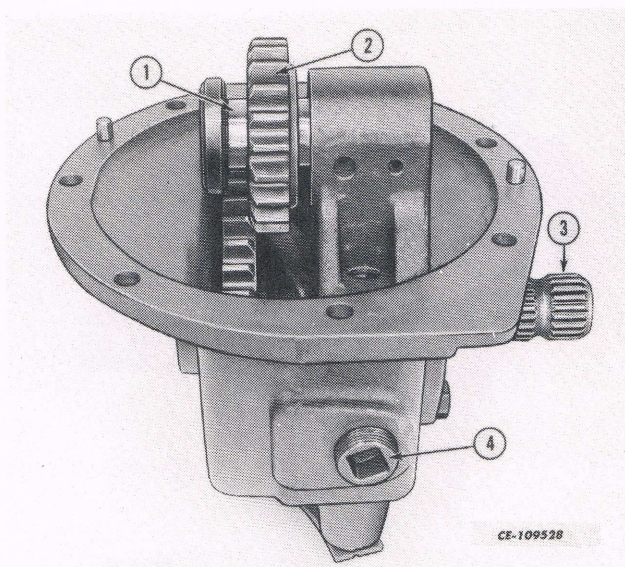

Fig. 28
3. Install the spring and two detent balls in the output shaft. Hold the balls in position with a hose clamp (7) as shown. See Fig. 28.
4. Hold the PTO gear in position and install the output shaft assembly (3). See Fig. 29. Remove the hose clamp (2). See Fig. 28.